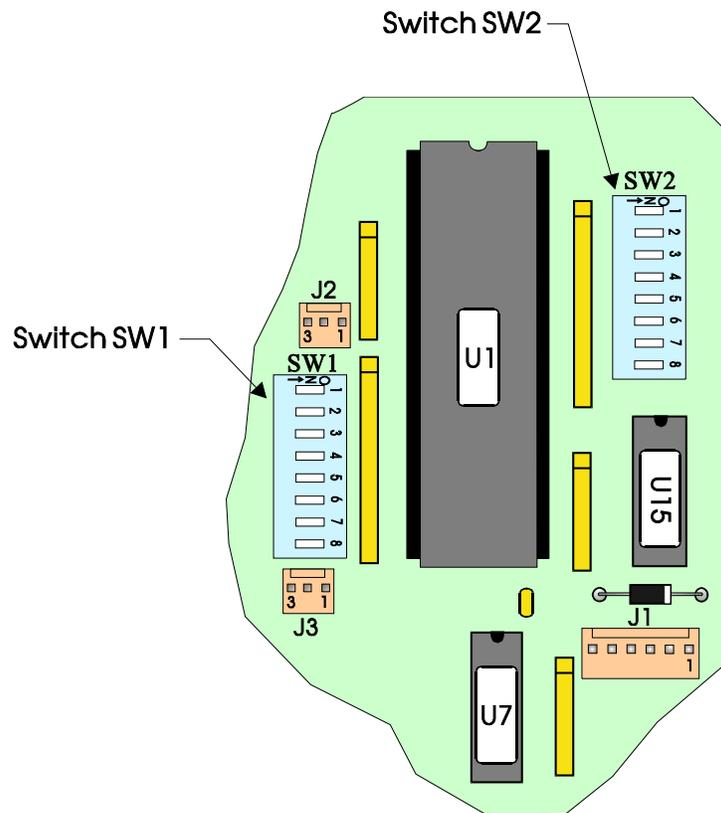

Figure 3-1 - Option Switches on CPU Board
Two switch assemblies (SW1 and SW2) are used to set options and select ranges. These switches are located on the CPU Board as shown in Figure 3-1. Each assembly contains eight (8) miniature SPST switches. The individual switches of each package are identified as subsets of the main switch, e.g., SW1-1, SW1-2, etc.